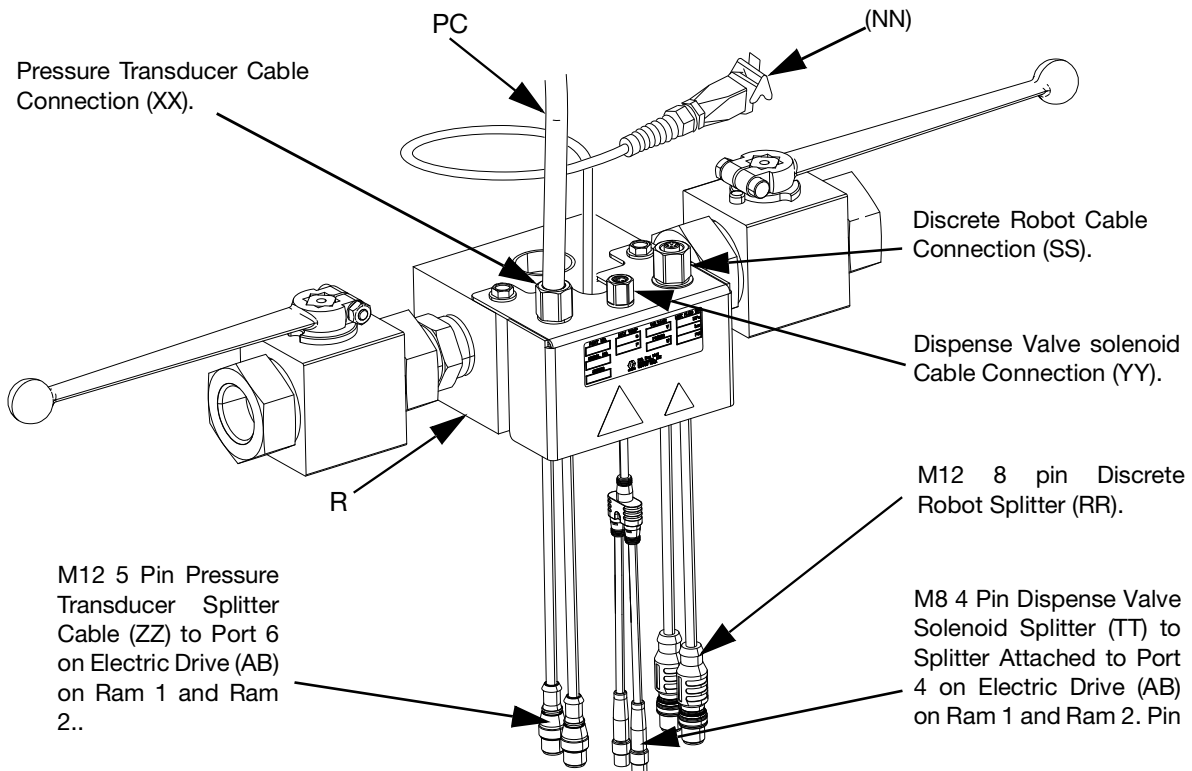

FIG. 29
- If using a Single iQ Ram Supply System, connect the pressure transducer cable (PC) from dispense valve (B) to Port 6 on the Electric Driver (AB). See **Electric Driver Communication Connections for Single Rams** on page 18.
- Connect the Pressure Transducer Cable (PC) from the Dispense Valve (B) to the Tandem Block Valve Pressure Transducer Splitter. See FIG. 29.
- Connect one male end of the M12 5 pin Pressure Transducer Splitter cable (ZZ) on the Tandem Block (R) to Port 6 on the Electric Driver (AB) on Ram 1. The second male end goes to Port 6 on Ram 2. See **Electric Driver Communication Connections for Tandem Rams** on page 19.